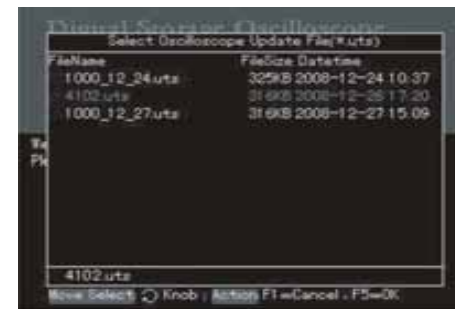

Figure 5-2 Selection of the USB upgrade document
4. When **[F5]** is pressed as shown in Figure 5-2, the prompt on the right will appear : “Are you sure you wish to update? If yes, press **[F5]**, otherwise press **[F1]** to cancel upgrade”.